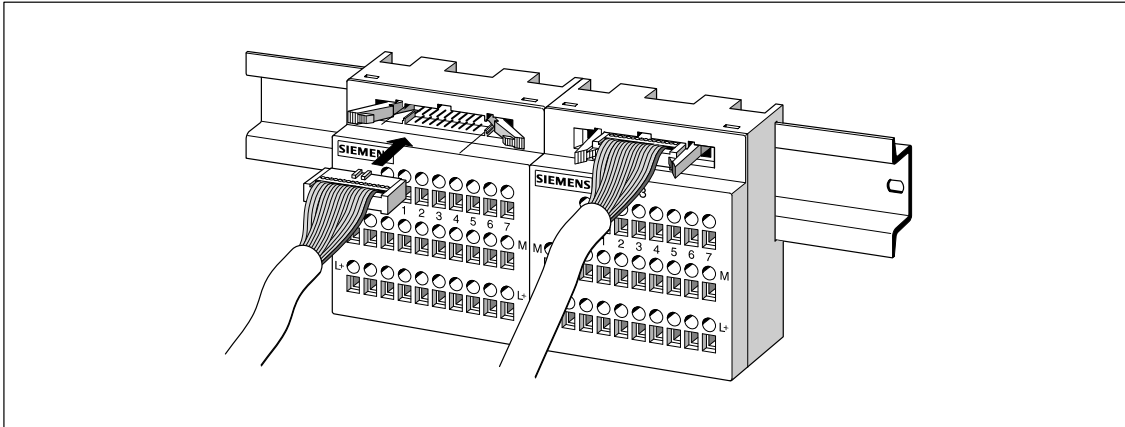

Figure 8-6 Plugging the Connecting Cable into the Terminal Block
2. Plug the connecting cable into the terminal block (see Figure 8-6).